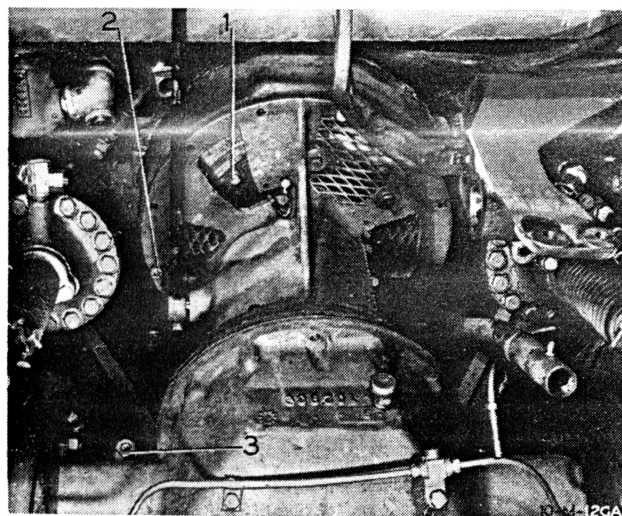

Fig. 9
6. Remove thirteen bolts holding drive axle to transmission case. Fig. 9, Ref. 2.
7. Remove four bolts and nuts holding drive axle to frame. Fig. 9, Ref. 3.